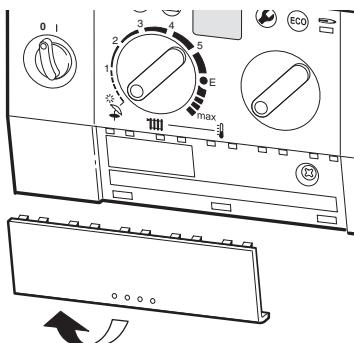

Fig. 26
- Pull out cover panel at the bottom and remove. Refer to fig. 26.